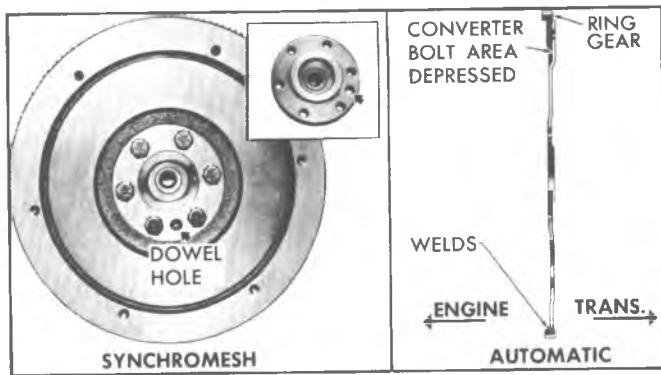

Fig. 30L—Flywheel Installation (Typical)
2. Install flywheel on crankshaft and position to align dowel hole of crankshaft flange and flywheel (fig. 30L).